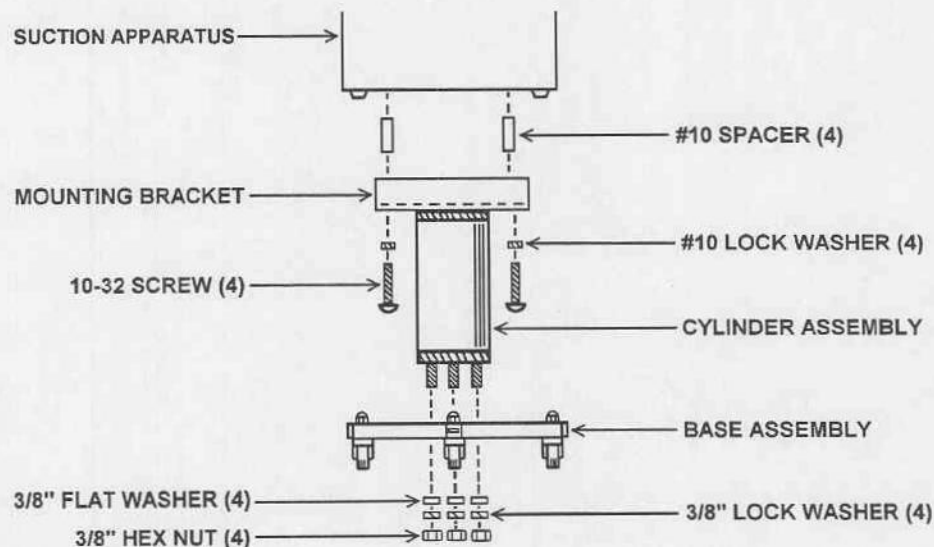

Figure 2-1. Cart assembly.
a. *Assembly.* The suction apparatus may or may not require assembly dependent upon the standard operating procedures of your unit. If required, assembly procedures for the cart assembly (fig 2-1) are as follows: